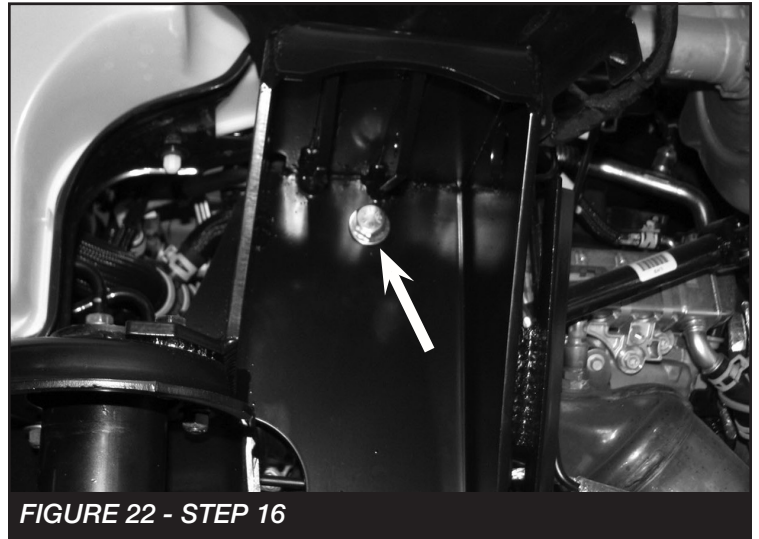

FIGURE 22 - STEP 16
16. Install the supplied 1/2-13 x 1-1/4 bolt, washers and nut. Through the front. Leave loose. **SEE FIGURE 22**